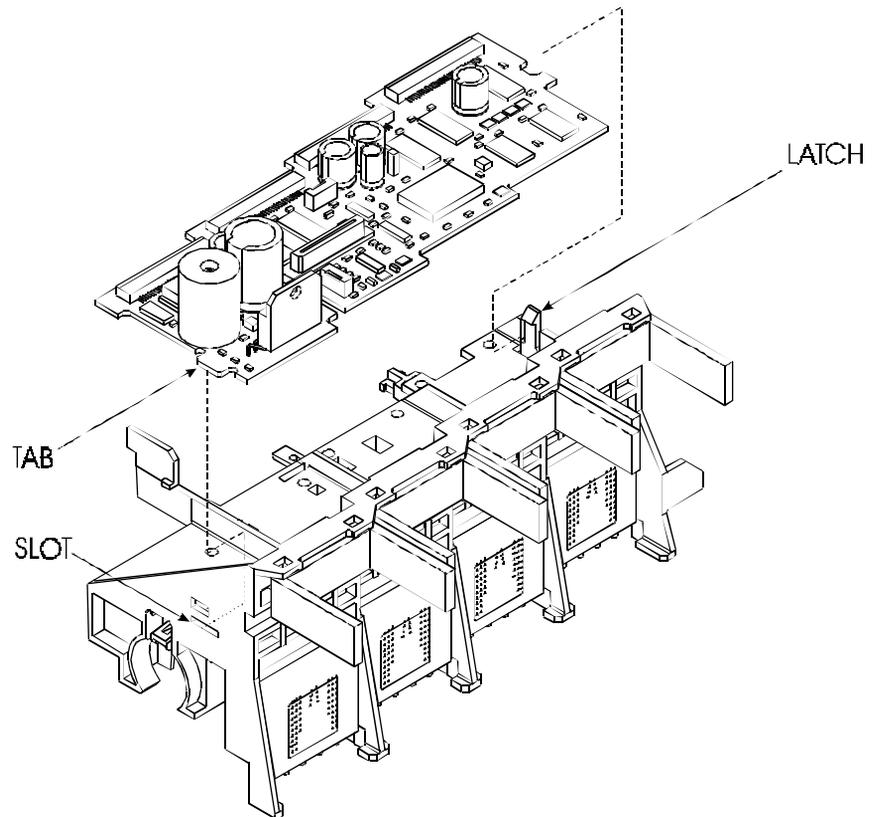

Figure 5-15. Carriage PCB Removal/Installation.
4. Unlock the latch on the right end of the Carriage Assembly and lift up the right end of the Carriage PCB. See Figure 5-15.
1. Put the tab on the left end of the Carriage PCB into the slot in the left side of the Carriage Assembly. See Figure 5-15.